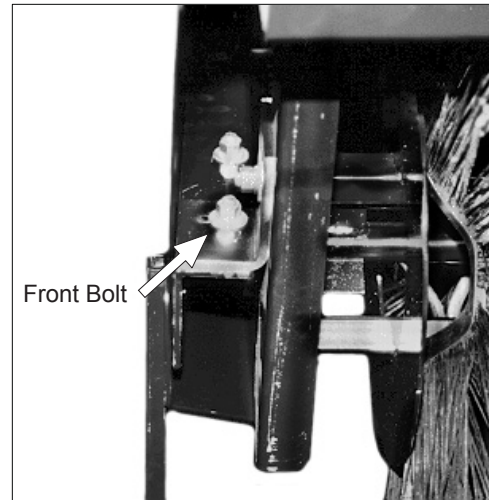

figure 1
1. Remove the front bolt from inside the right-hand side of the brush frame. This allows you to remove the shield and right mounting bracket (figure 1).